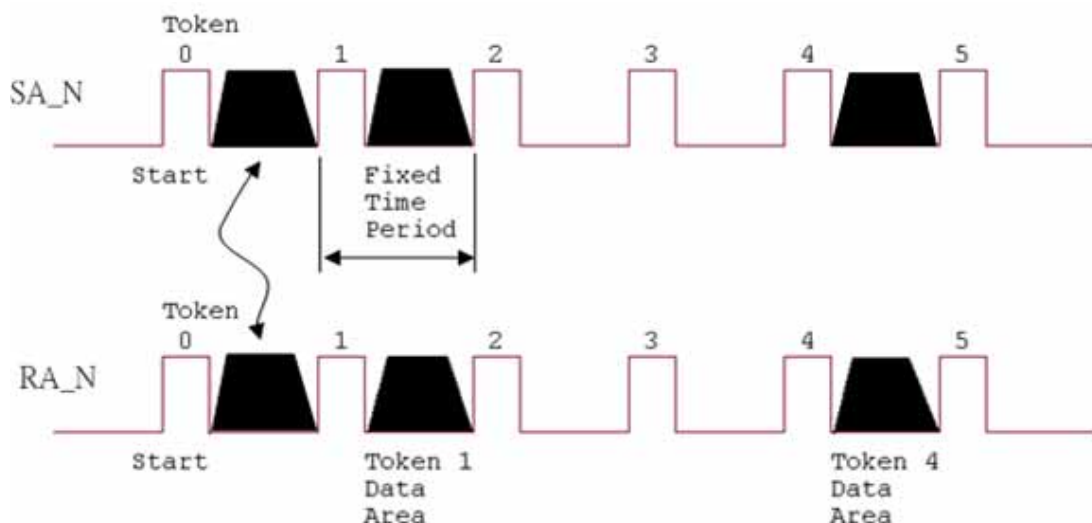

Figure 1.1 Token stream controlled by network manager, SA0
- The Token stream is produced cyclically by the hardware system (SA0) at the fixed time interval, see Figure 1.1. Therefore, the FRnet system can provide for both Isochronous and Deterministic functionalities.